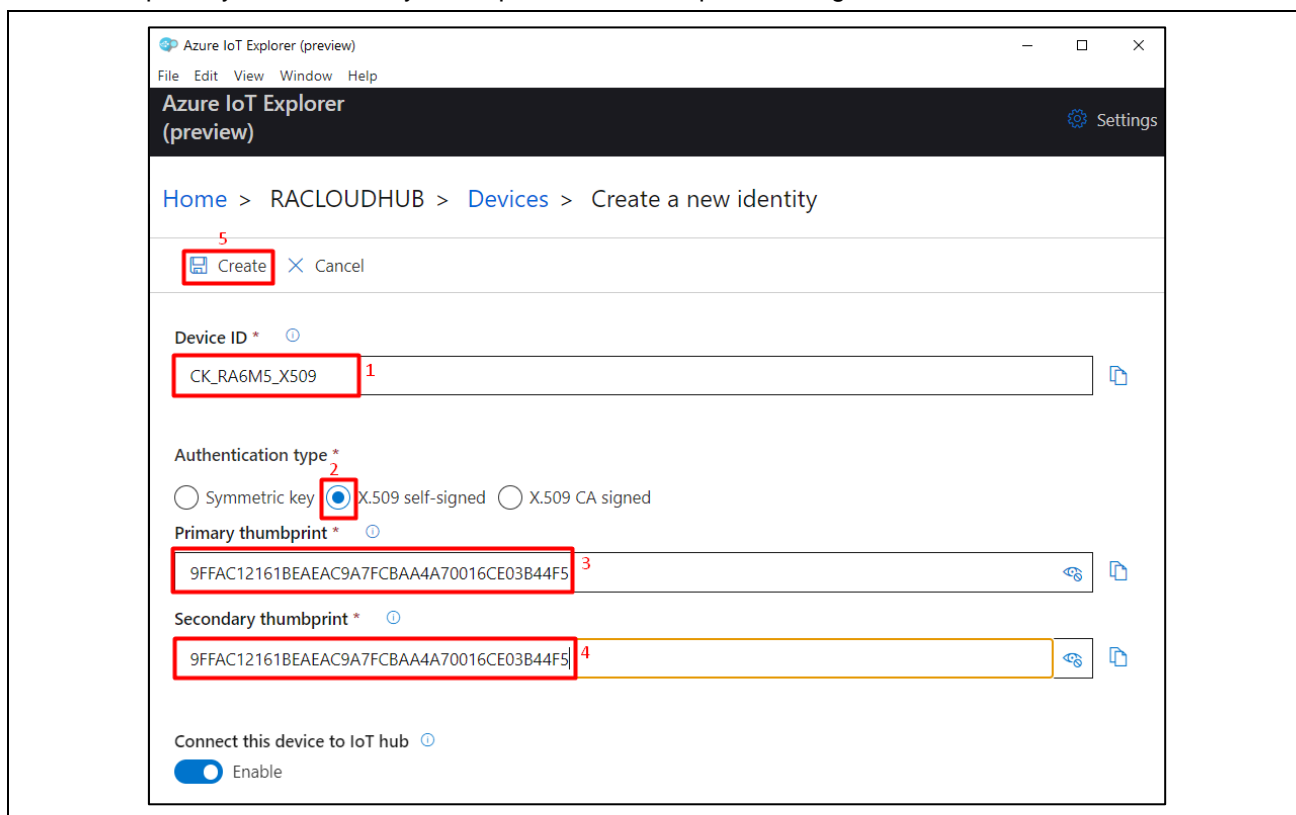

Figure 31. Naming, Authentication type and Thumbprints
2. In this stage, you have to give Device ID, Authentication type, Primary thumbprint, Secondary thumbprint then click on **Create**. Use fingerprint generated in Figure 23 in section 3.5, Certificate Creation Process for the primary and secondary thumbprints. Follow steps 1-5 in Figure 31, to create the device.